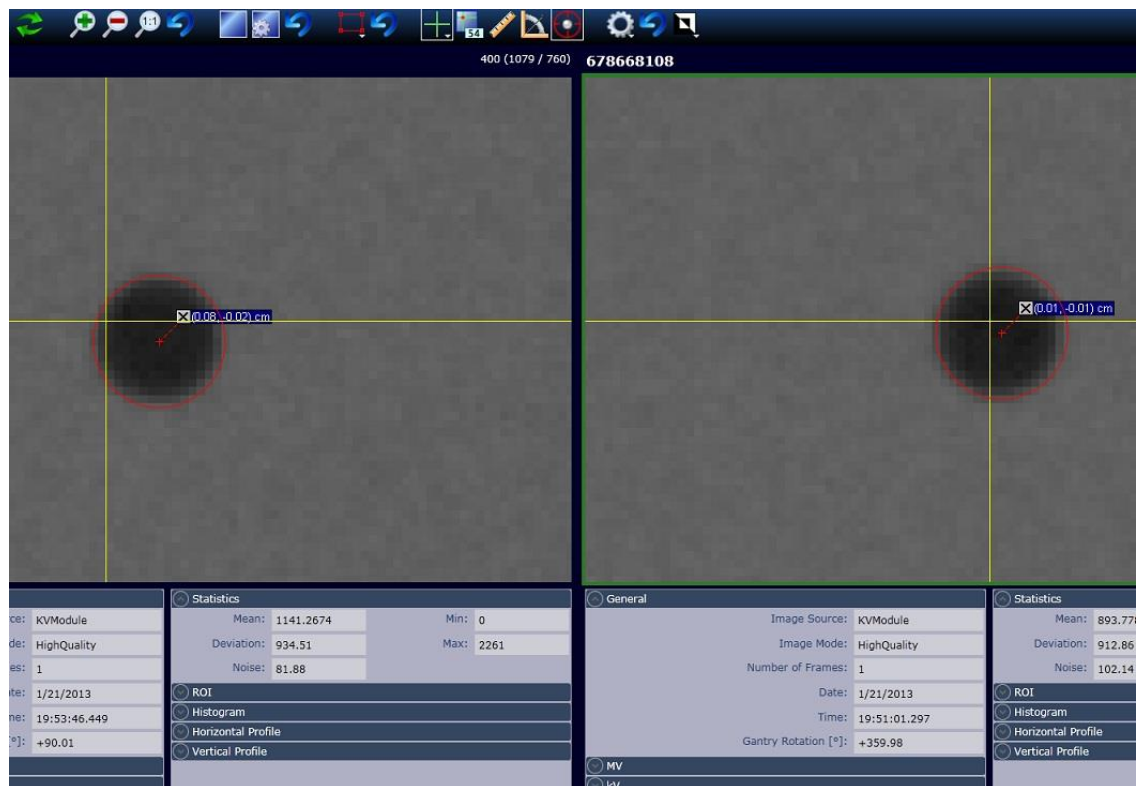

Figure 10: Ball Detection Tool in PVA Screen
8. Select the Ball Detection tool and then click on balls in the two acquired images. The Ball detection tool will automatically detect the center of selected ball image and provides the offset values from the Grid lines. See Figure 10.